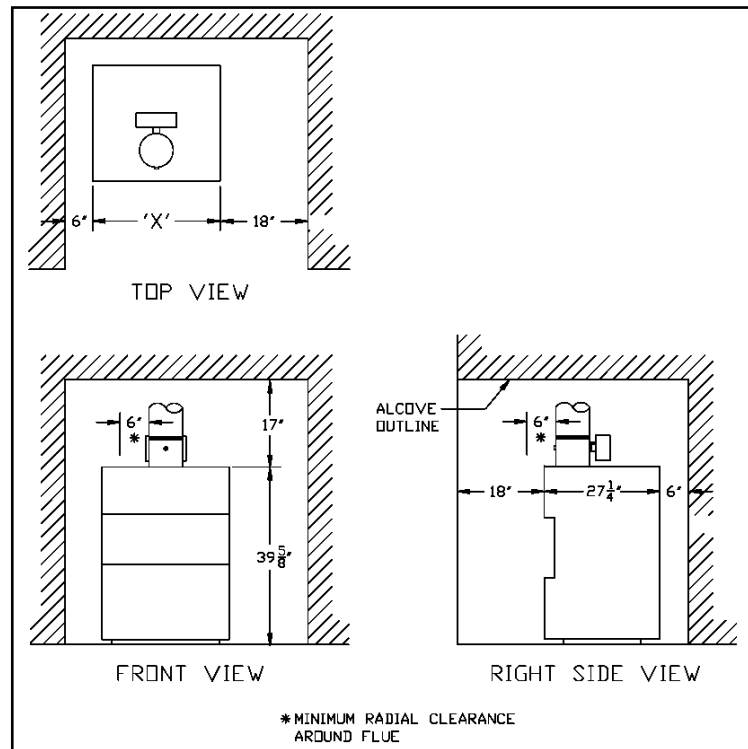

FIGURE 2: CGS-C BOILERS - CLEARANCES TO ALL TYPES OF COMBUSTIBLE CONSTRUCTION AND NONCOMBUSTIBLE CEILINGS, WALLS, AND DOORS.
- Observe the minimum clearances shown below. These clearances apply to all combustible construction, as well as noncombustible walls, ceilings and doors. Also see Figure 2.
- A 24” service clearance from the jacket is recommended on the left, right, and front of the boiler. These clearances may be reduced to those shown in Figure 2, however servicing the boiler will become increasingly difficult as these service clearances are reduced.